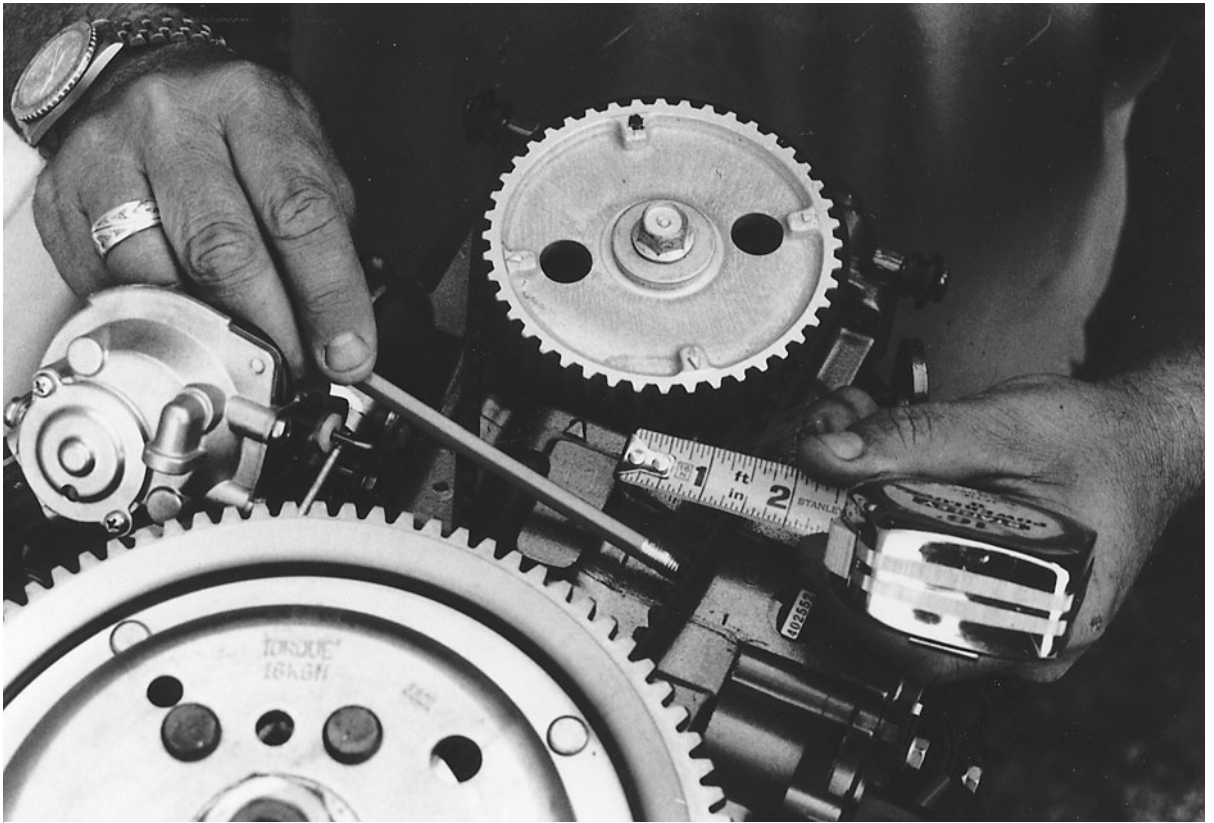

Figure 3-18. *Checking the timing belt for wear.*
**Timing-Belt Wear.** At least once a season, it's a good idea to check your four-stroke engine's timing belt for excessive wear. Figure 3-18 shows the timing belt side clearance being checked on a new four-stroke Yamaha engine.